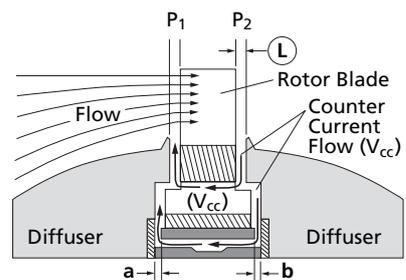

Figure 1 — Counter Current Flow
As liquid passes over the diffuser section (see Figure 1), it is accelerated onto a multi-blade hydrodynamically balanced turbine rotor. The rotor speed is proportional to the volumetric flow rate. As the rotor turns, a reluctance type pickup coil (mounted on the meter) senses the passage of each blade tip and in turn generates a sine wave output (with frequency directly proportional to the flow rate). Additional coils can be added in-phase for metering redundancy and API level "B" fidelity techniques as defined in API MPMS Chapter 5, Section 5. Coils can also be arranged out-of-phase for flow direction sensing.
The unique true fluid thrust bearing design eliminates the need for mechanical thrust bearings by nulling the downstream thrust produced by the flowing stream. This is achieved by developing a differential pressure (DP) across the rotor that opposes the flow, where  $P_2$  is greater than  $P_1$  (See Fig. 1).